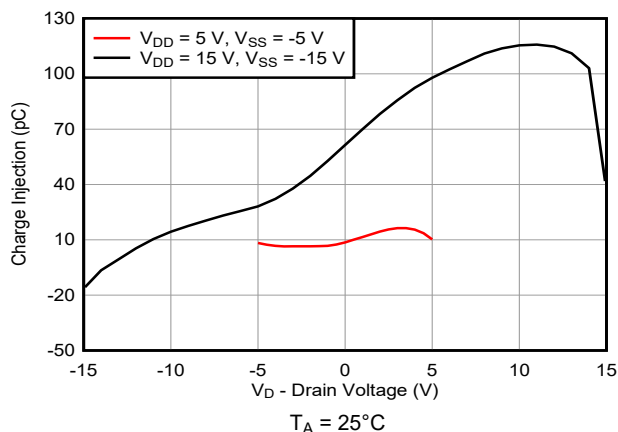

図 8-2. Charge Injection vs Drain Voltage
The low on-resistance of TMUX6236 and ultra-low charge injection performance make this device an excellent choice for implementing high precision industrial systems. The TMUX6236 contains specialized architecture to reduce charge injection on the Drain side (D) (for more details, see セクション 7.2.7). 図 8-2 shows the plot for the charge injection versus source voltage for the TMUX6236.